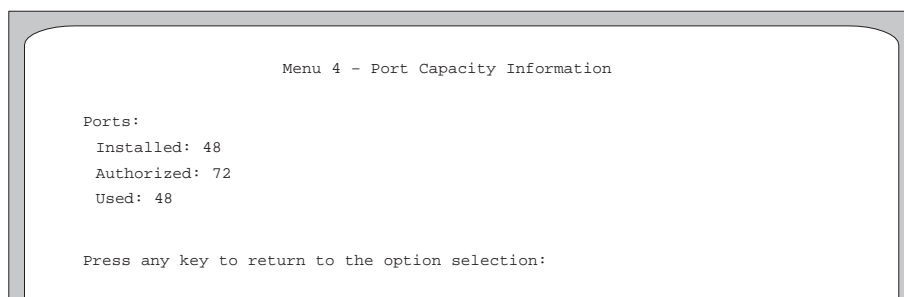

Figure 12-6. Example of Menu 4.2, Port Capacity Information.
13. From the Main Menu access Menu 4-Port Assignments, then menu 4.2, Port Capacity Information, as shown in the example in Figure 12-6, to ensure that the new ports were added successfully. Access menu 4.1 and configure the ports for the new FLT-A card. Refer to the configuration note for FLT-A integration (or use menu 4.1 to review the port configuration for other, existing FLT-A cards).